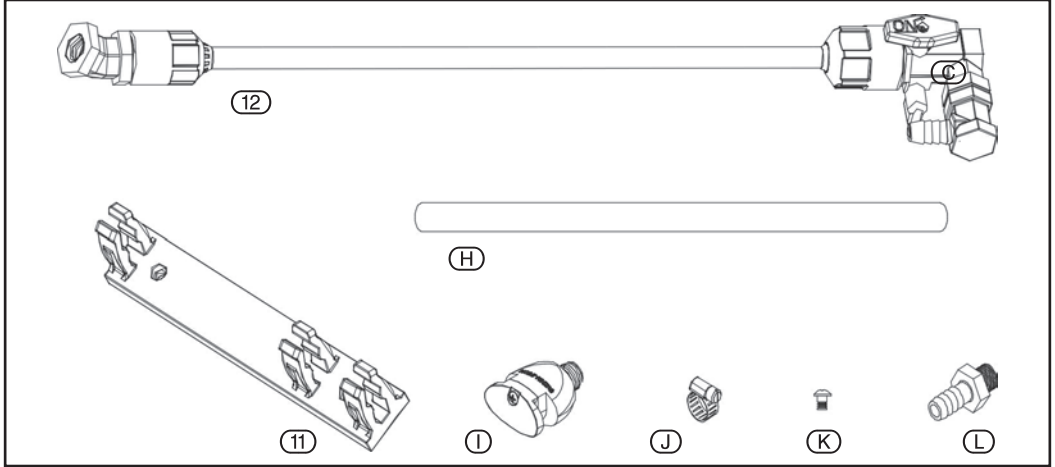

FIG. 8
9.6 BROADCAST ASSEMBLY (34676 & 34677) – FIG. 8